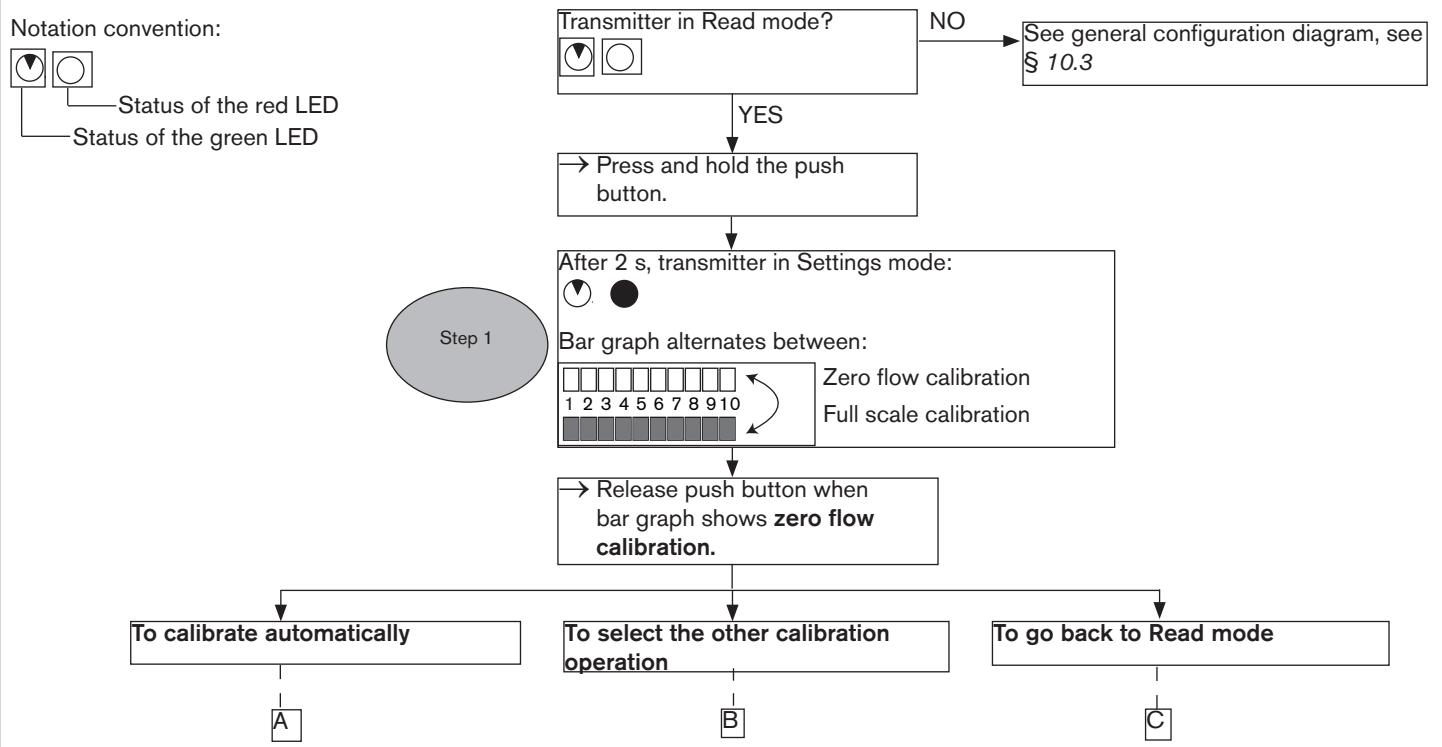
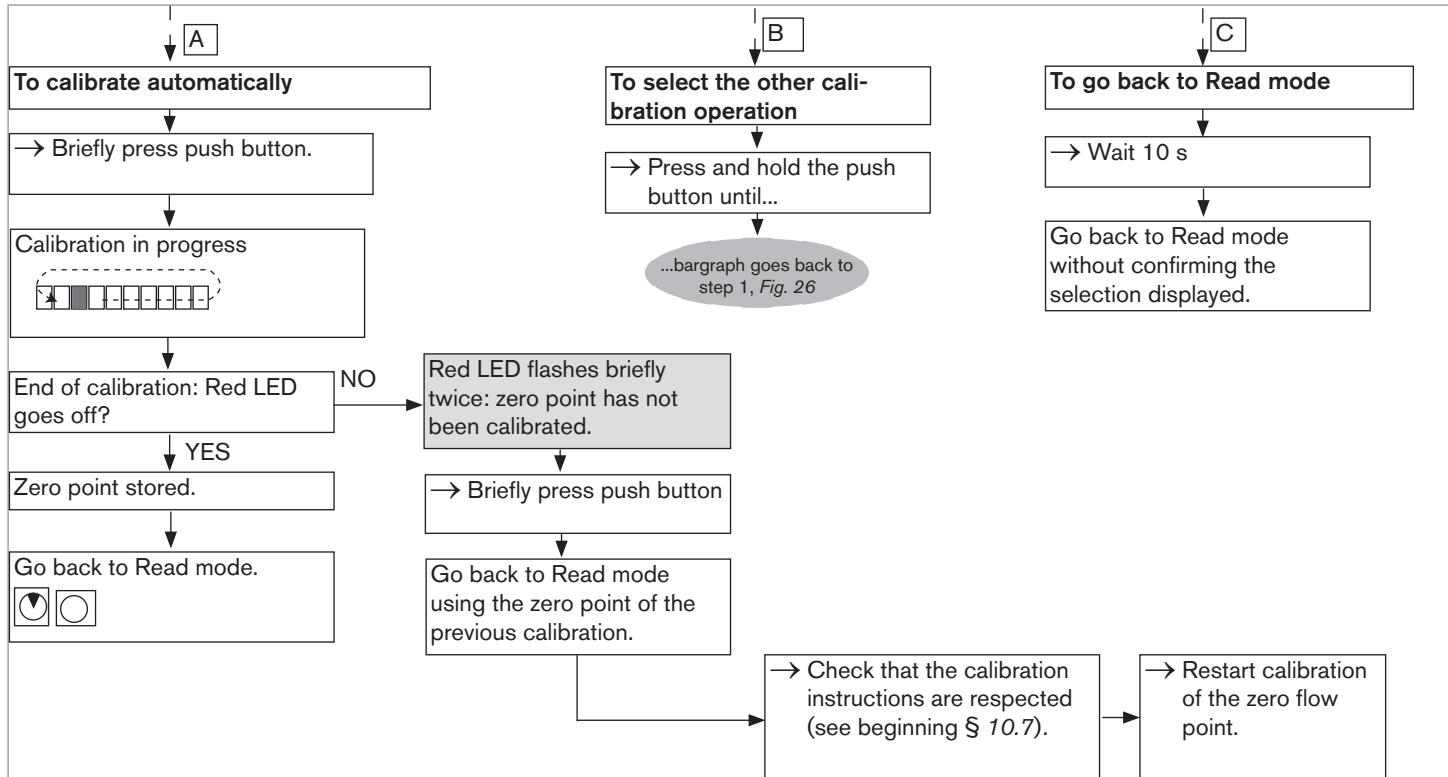

Fig. 26 : Calibration of the zero flow point, part 1
Fig. 27 : Calibration of the zero flow point, part 2
- Calibrate the "zero flow" point (see Fig. 26 and Fig. 27).